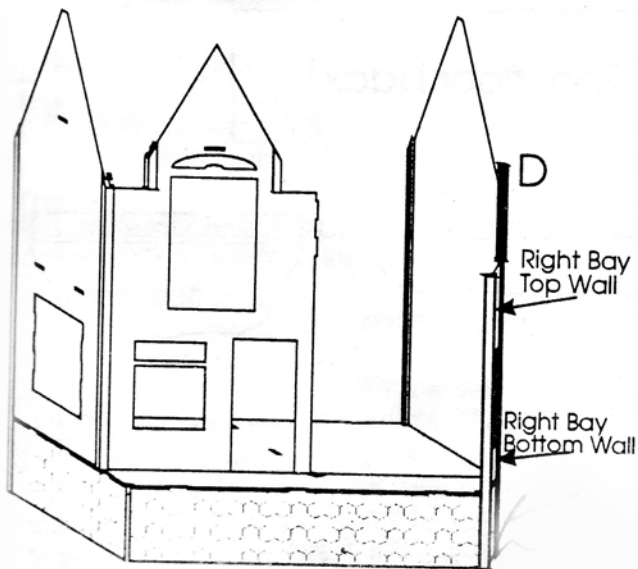

Figure 13
8. Right Bay Walls- Glue longframe assembly "D" into place. Glue 15 1/2" longframe assembly "E" into place by gluing it to the Bay Base and Front Base Wall edges. The top of this longframe assembly should also be 11 1/2" from the top of the Base Floor. Slide the Right Bay Bottom Wall down the grooves of the longframe assemblies. Glue in place. Glue the Right Bay Top Wall into place flush with the tops of the longframe assemblies. See Figure 13.